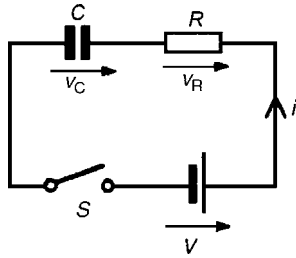

Figure 18.1
- (a) The circuit diagram for a series connected  $C - R$  circuit is shown in Fig. 18.1 When switch  $S$  is closed then by Kirchhoff’s voltage law: